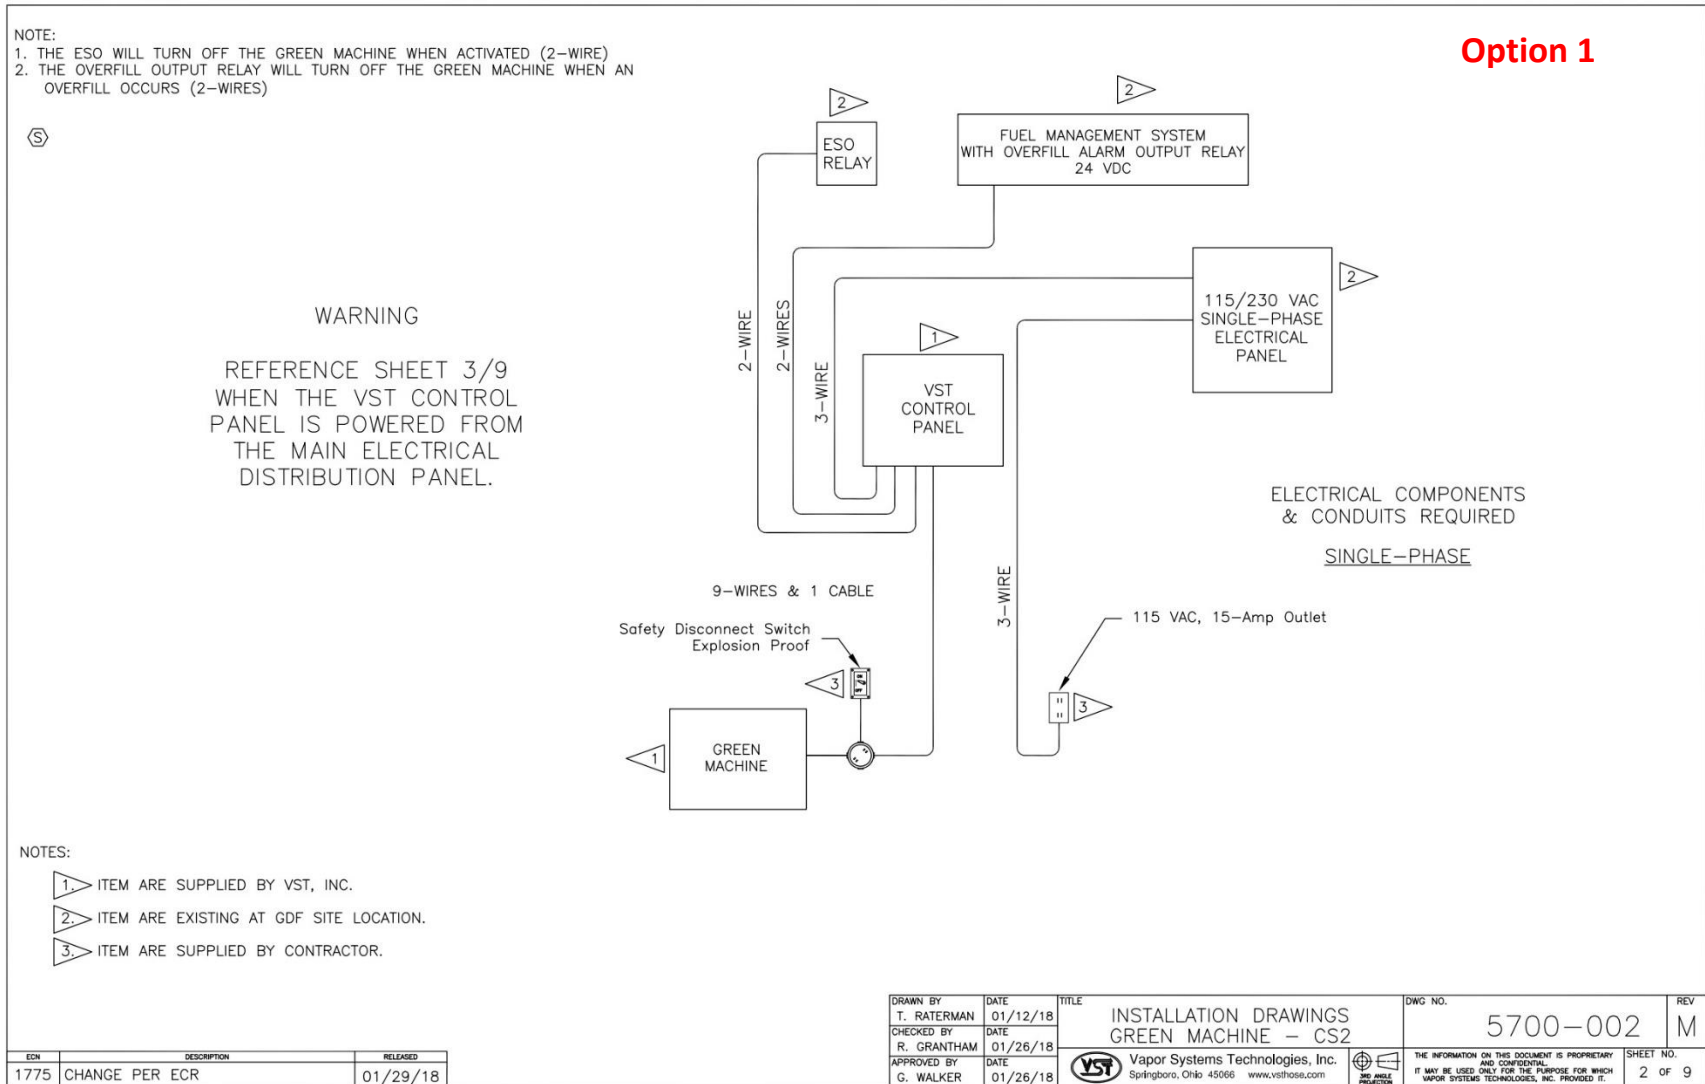
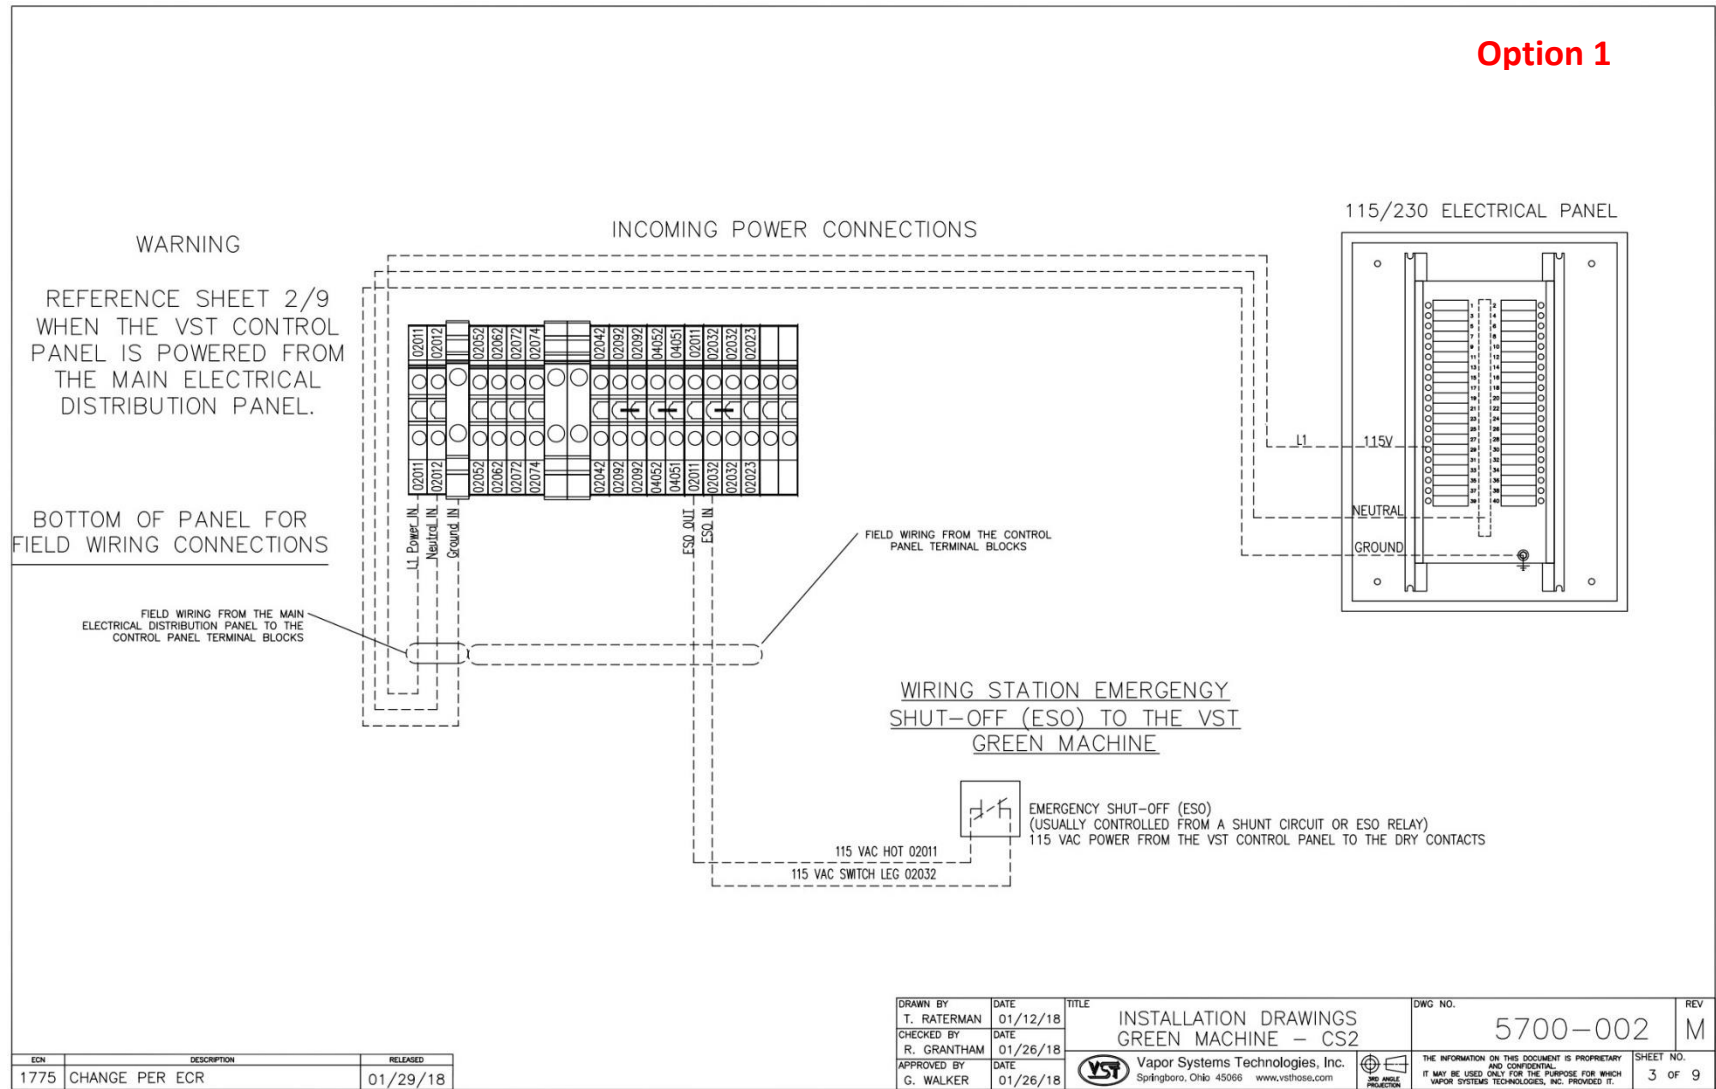

Figure 8-5: Electrical Field Wiring Diagram
Figure 8-6: Incoming Power Connections
1.	Verify that the Breaker for the VST Control Panel in the main power distribution panel is ON. If not, turn the breaker ON. See Figures 8-5 & 8-6
3.	The VST Control Panel must supply 115 VAC power through an Emergency Shut-Off (ESO) dry relay for the VST Control Panel to have power and for the GREEN MACHINE to operate. See Figures 8-5 & 8-6. <ul style="list-style-type: none"><li data-bbox="423 758 1198 783">a) Verify the VST Control Panel is connected to the station ESO.<li data-bbox="423 835 1398 898">b) Verify the ESO is not engaged. If the ESO is engaged the GREEN MACHINE will not have 115 VAC power.<li data-bbox="423 951 1344 1014">c) Verify all the wire connections from the VST Control Panel to the ESO are correct and tight.<li data-bbox="423 1035 1409 1129">d) Verify the ESO circuit has 115 VAC power from the VST Control Panel across terminals 02011 and 02032 on the field connections section of the VST Control Panel. See Figure 8-6.<li data-bbox="423 1182 1409 1245">e) Verify that the 115 VAC Over/Under Voltage Relay is adjusted to 118 VAC or at the local voltage. See Figure 8-10.